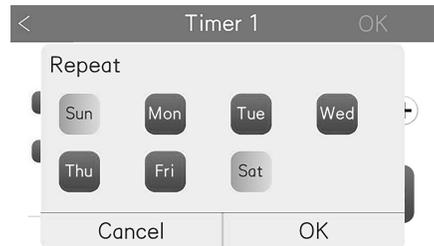

Fig 5.7 Repeated setting for weekly timer
- Click the repeated button  Mon Tue Wed ... to enter repeated setting (Fig 5.7).